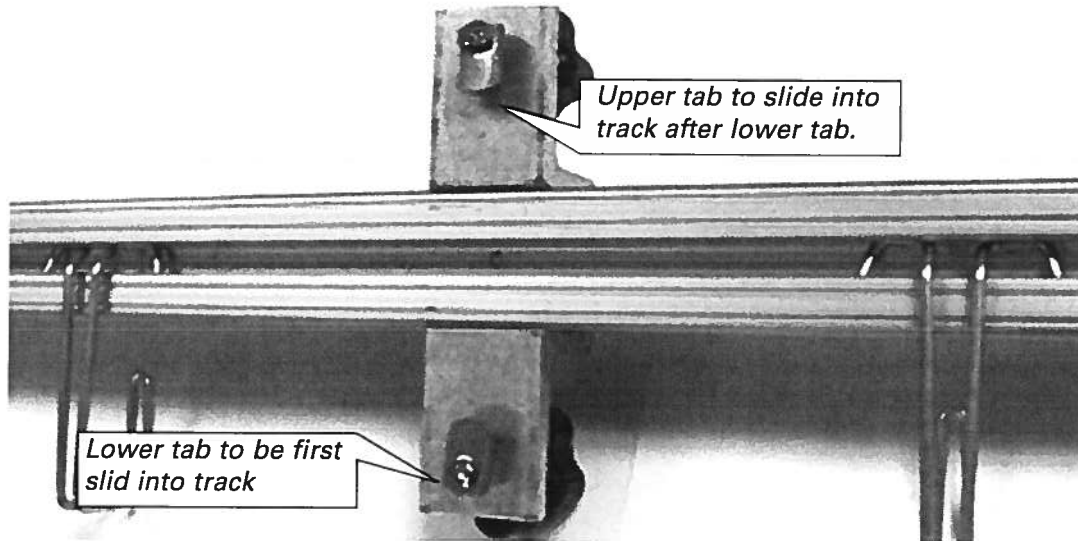
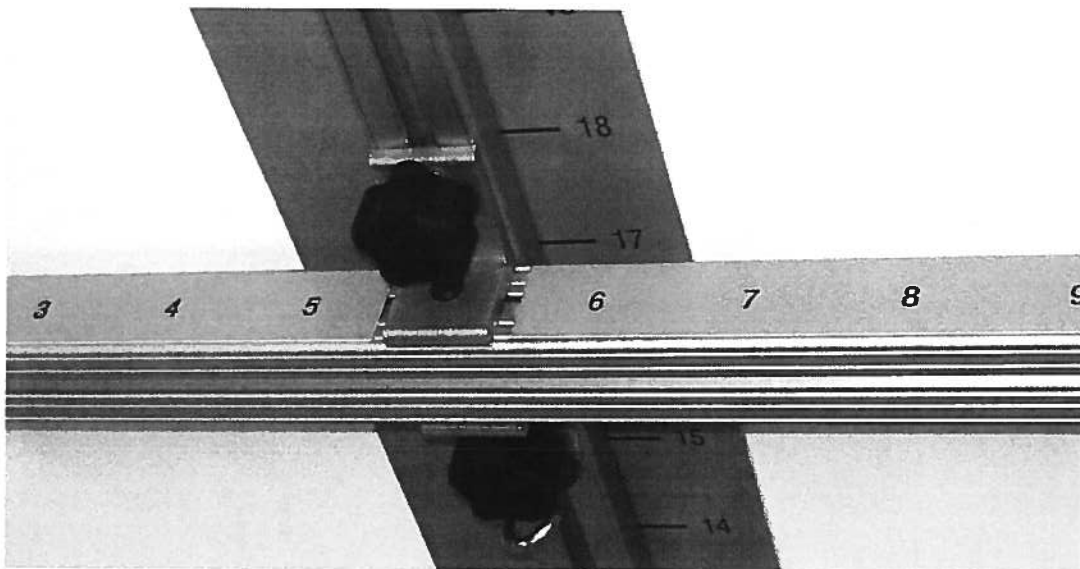

Figure 2 – Rear view of horizontal bar showing mounting tab positions.
Figure 3 – Horizontal crossbar installed onto mounted lower track.
3. Install horizontal crossbar (wire hooks down, eye bolts out) by carefully sliding the tabs (Fig. 2) into the upper end of the lower t-track. Keep the long ends of the tabs pointing at each other (towards the middle of the horizontal bar). Position the crossbar so that the upper mounting screw is completely accessible to adjustment and final tightening. Tighten knobs (Fig. 3).